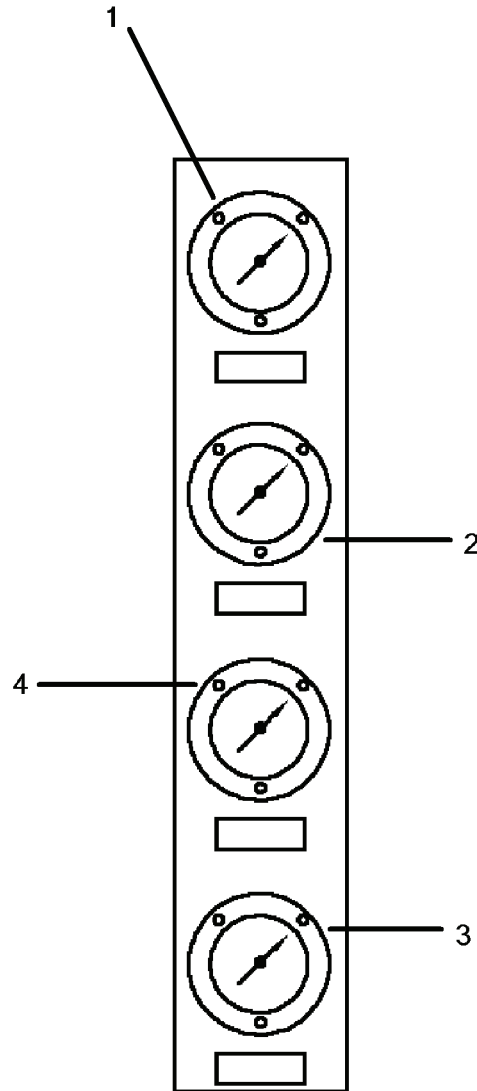

Figure 2-14. Gauge Panel.
2-21. Gauge Panel. (Figure 2-14)
The procedures are the same for removal and replacement of the No. 1 Distillate Pump Discharge Pressure (1), No. 1 Jacket Water Pump Discharge Pressure (2), No. 2 Distillate Pump Discharge Pressure (4), and No. 2 Jacket Water Pump Discharge Pressure (3) gauges from the gauge panel (Figure 2-14).